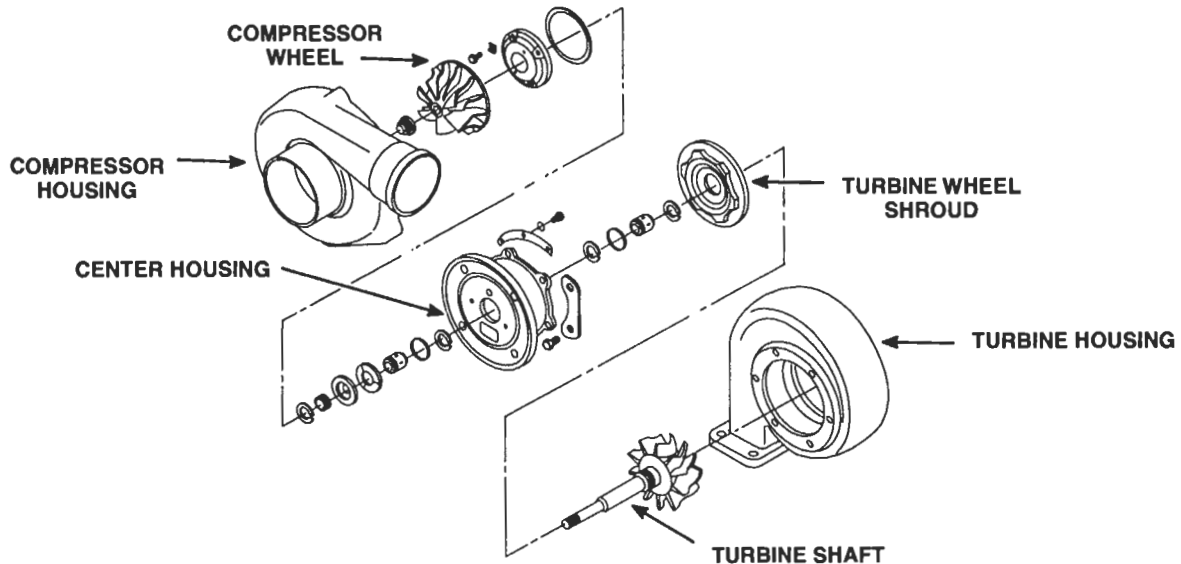
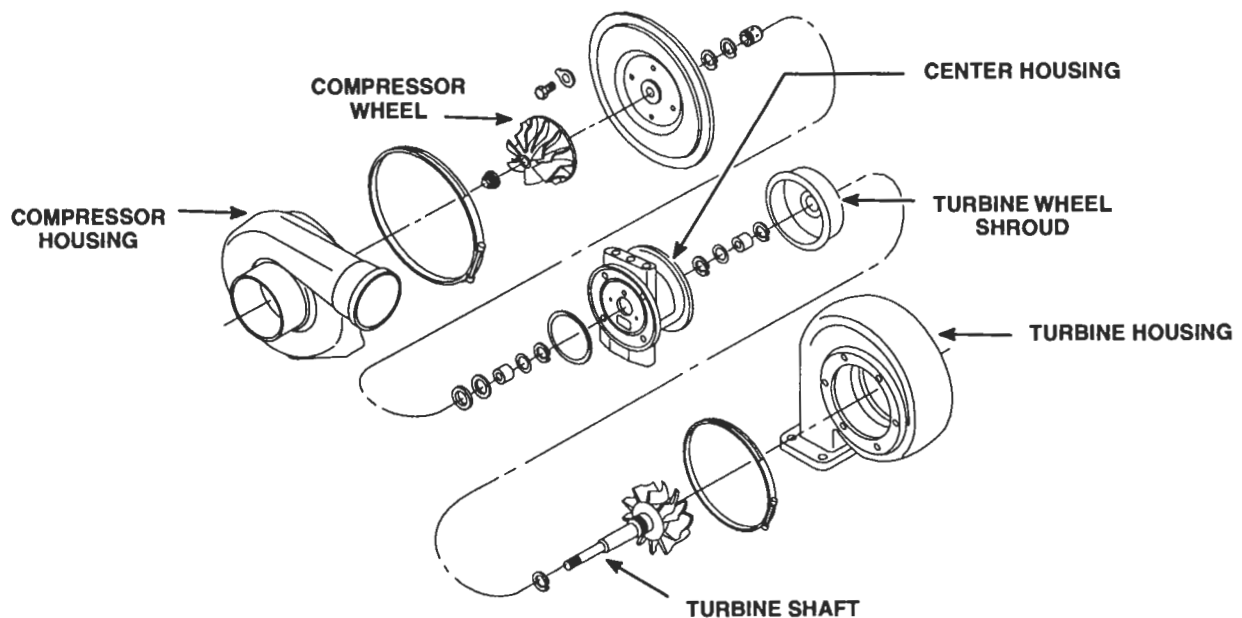

Figure 7. T18A40 Turbocharger Components
Figure 8. TV61 and TV71 Turbocharger Components
2. With the T18A40 (Figure 7. and Figure 8.) turbocharger, bend down the ends of the lockplates and remove the eight bolts securing the four lockplates and turbine housing clamps to the center housing and turbine housing. With the TV61 and TV71 turbocharger, loosen the "V" band coupling securing the turbine housing to the center housing. Remove the turbine housing from the center housing. Tap the housing with a soft hammer if force is needed for removal.